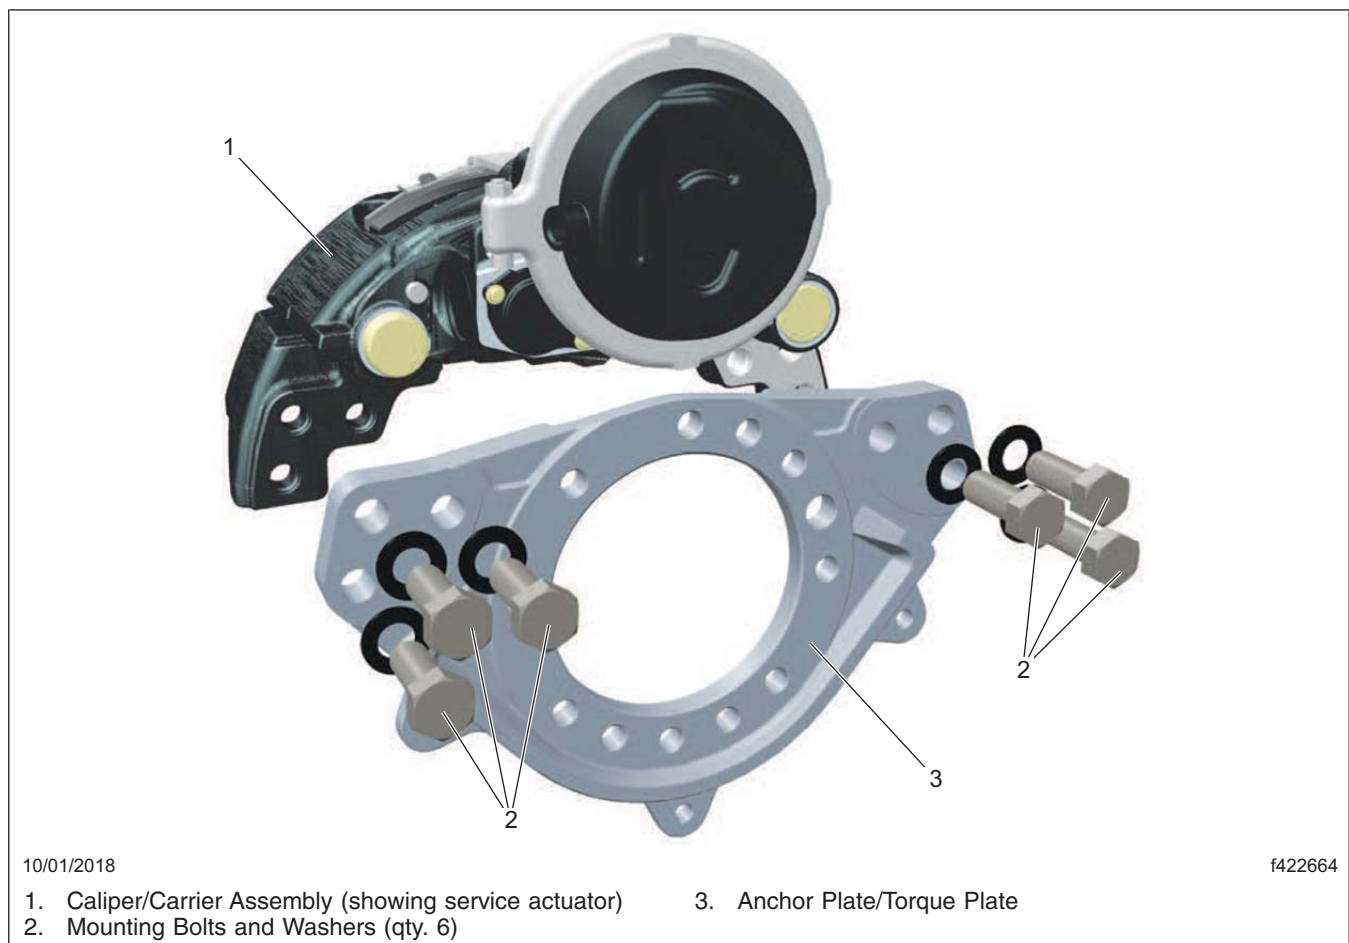

Fig. 2, Bendix Axial Mounted Caliper
9. Align each caliper/carrier assembly with the rotor by pushing the caliper against the shelf on the torque plate, then install the caliper/carrier assembly using new caliper mounting bolts. See Fig. 2.